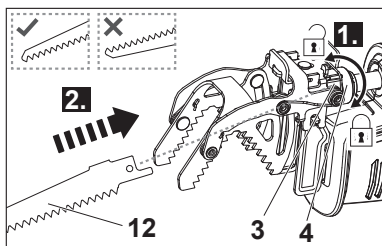

Fig. 1
1. Turn the locking sleeve (4) to the right and hold it in position.
2. Insert a suitable saw blade (12) all the way into the tool socket (3) and release the sleeve (4) (Fig. 1).